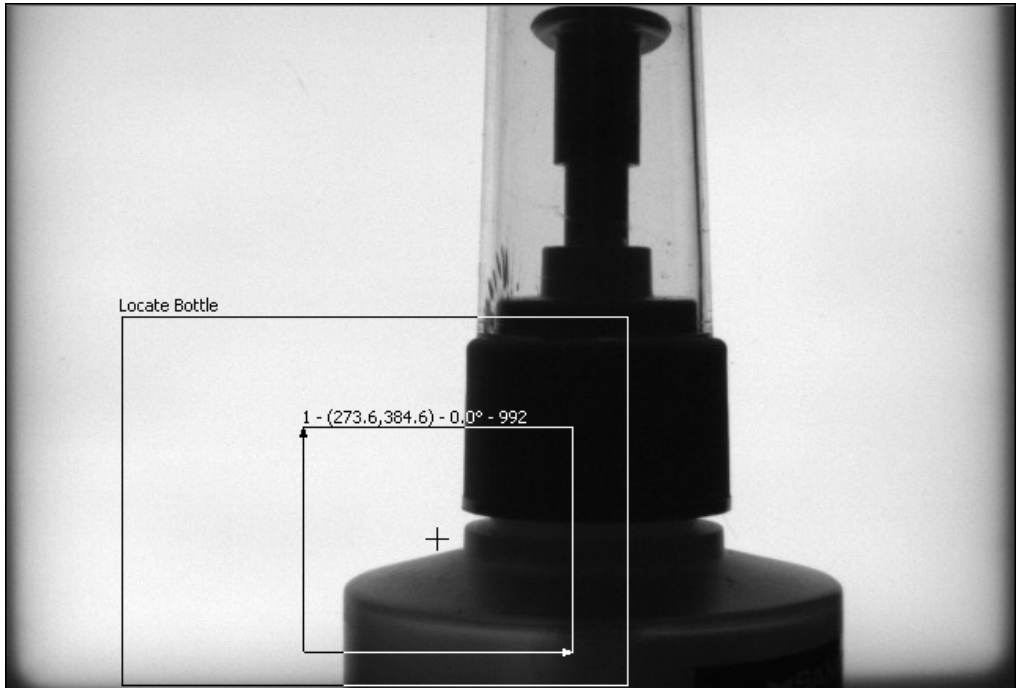

Figure 6-7. Adjusting the Search Region
7. Adjust the default green ROI so that it only surrounds the area of the image that could contain the bottom left edge of a spray bottle, as shown in Figure 6-7.